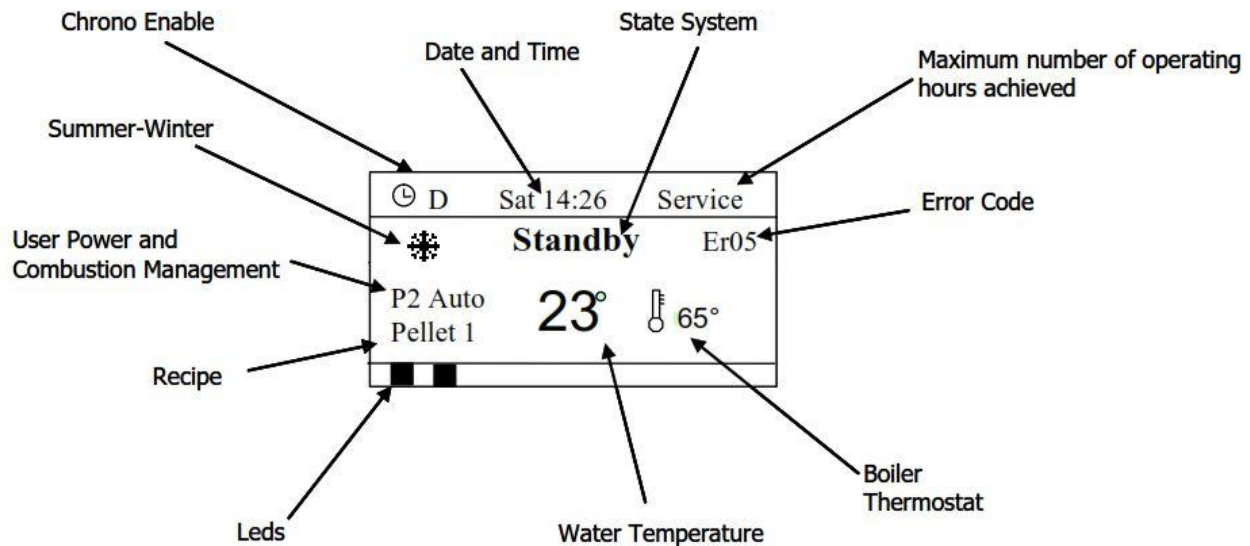

Figure 17. View of LCD screen on display
of the display (**Figure 17**), by pressing the key **P1**.
Press the key **P3** , after that the falling list is shown on the display, where the first option is automatically marked **Combustion Power**. With Keys **P4** or **P6** , you come to the option **Boiler Thermostat**. Confirm again with key **P3** , (appears to view a similar view like on **figure 19**), then with keys **P4** or **P6**   assign the temperature and at the end confirm again with key **P3** . Go back to the basic view on the display (**Figure 17**), by pressing the key **P1** .
- **STEP 4:** Initiate feeding system as the first grains of the pellet might fall into the combustion cup / space. (This procedure can be applied only when the Automation system is in OFF mode (Figure 17 : state of regime))